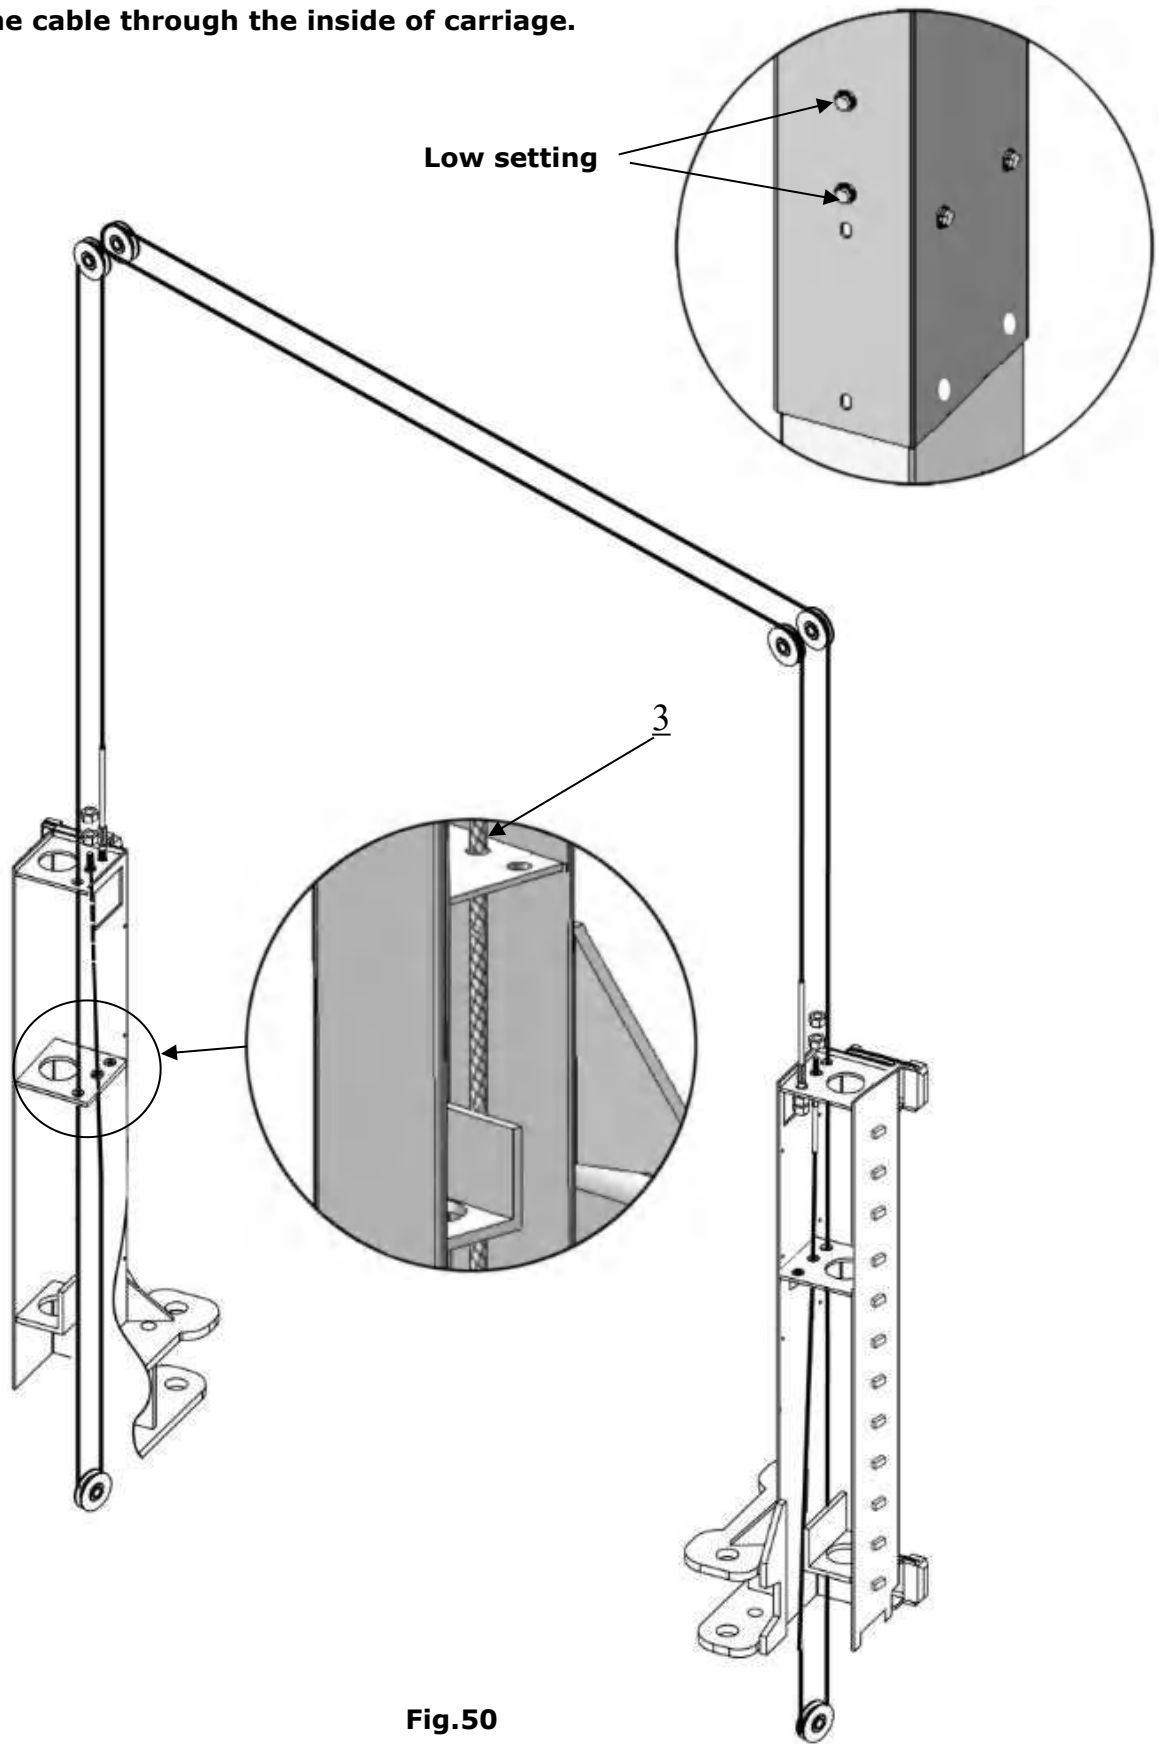

Fig.50
3.2 OHX-10H sync cable assy. connection for low setting. (Fig. 50)